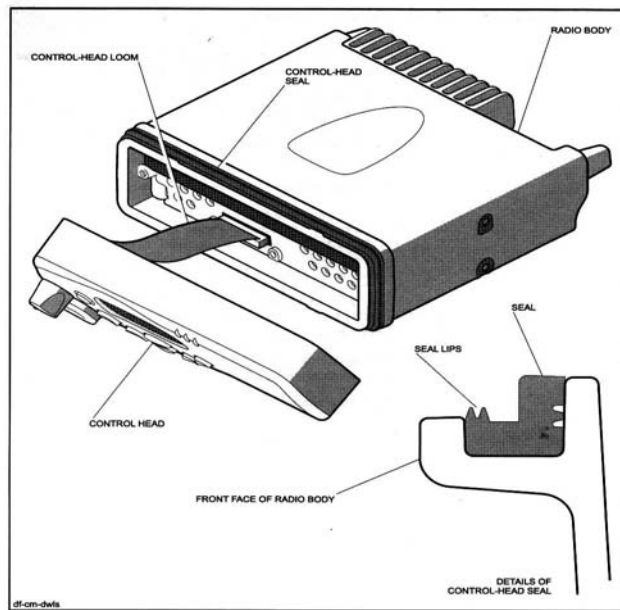

Figure 3.2 Details of the seal between the radio body and control head
4. After detaching the control head, disconnect the control-head loom at the connector on the radio body. Refer to Figure 3.2 next page.
1. Reconnect the control-head loom to the connector on the radio body. See Figure 3.2 above.